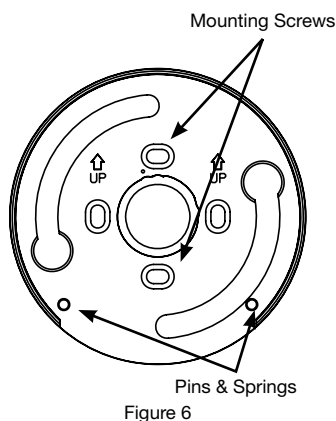

Figure 6
1. Mount the dial plate (p/n 3752) centered on the through hole (Figure 6). Attach the dial plate with the two mounting screws US 8-32 (US) or the M4-0.7 (metric).